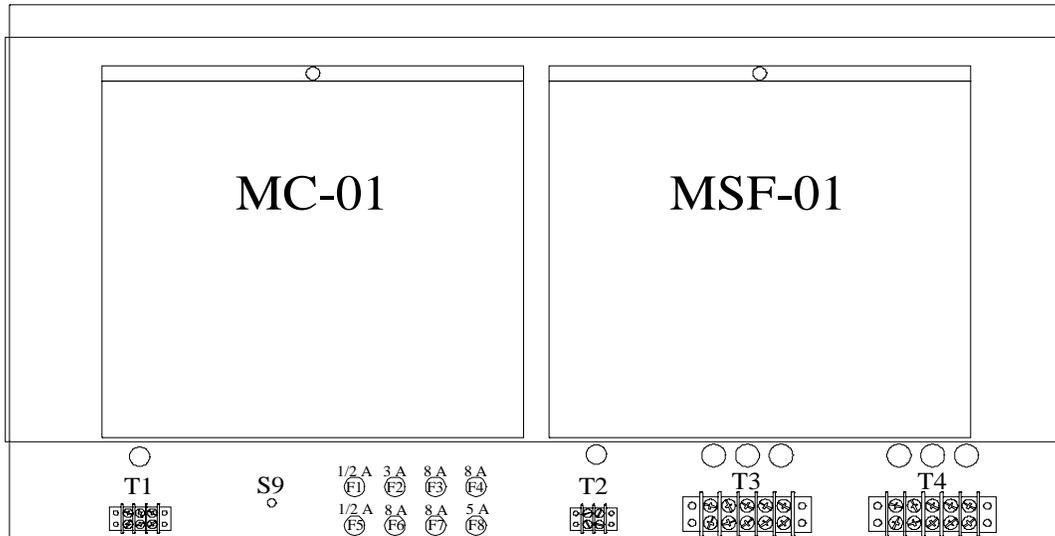

Figure 5 Access Panel Removed
2. Figure 5 shows the view behind the access panel. Feed the power cables through one of the holes in the plate below the access panel.